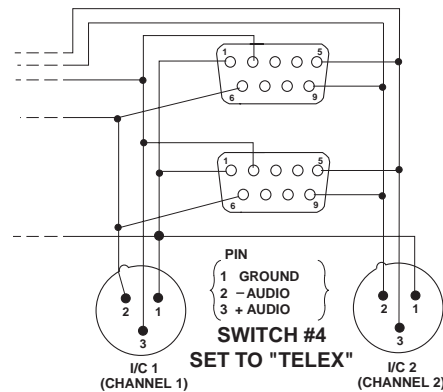

Figure 4
- I/C Switch** - Set for Telex or RTS type intercom systems. See Figures 4 and 5.